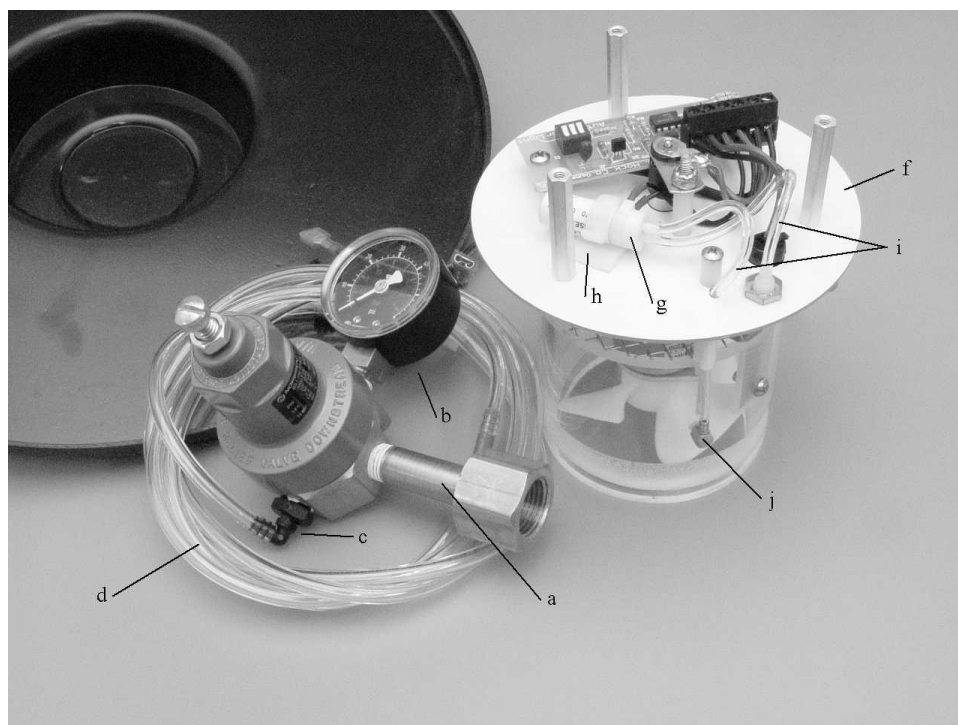

Figure 1. View of Photocell-controlled CO₂ release system with regulator.
- **Photoswitch operation** is simple allowing the trap to be configured in several ways. Early in 2009 we modified the photoswitch circuit. Table 1 and Figure 1 are for the original version; table 2 and figure 2 are for the newer version. Both are presented here for your convenience. The table below gives the setting and functions. Access the circuit by removing the black rainshield cover (remove the three stainless/plastic cap screws on the top of the rainshield).
- **Table 1 and Figure 1 for original LCS-3 circuit.** This is a one-sided board (all traces on bottom of board).
On right is a close-up of the switch (fig. 1); all switches, 1-3 are in the **closed** position. Pressing the bottom of the white switches and making them flush with the red case by “- OPEN -“ would put the switches in the **open** position. The labels for switches 1-3 are “AUTO,” “MOTOR,” and “LIGHT,” respectively.
If you ordered a Model 1012-CO₂, the New Standard Light Trap with the Photocell-Controlled CO₂ Release option, you have several additional items (see figure 1, next page):